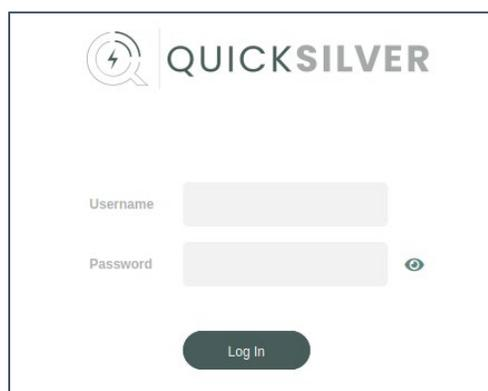

Figure 5: Quicksilver Log-in Page
6. Sign into the website with the default username “admin” and default password “Password!” when prompted, as shown in **Figure 5**.
2. Go to the **Configuration > Iridium** (see **Figure 5**).